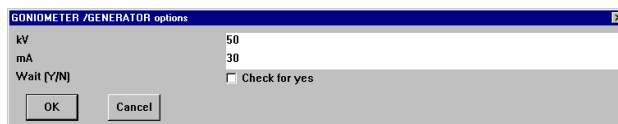

Figure 4-18. Goniometer /Generator Options panel
- Click Crystal > Generator to check the X-ray power. The Goniometer /Generator Options panel appears (Figure 4-18).